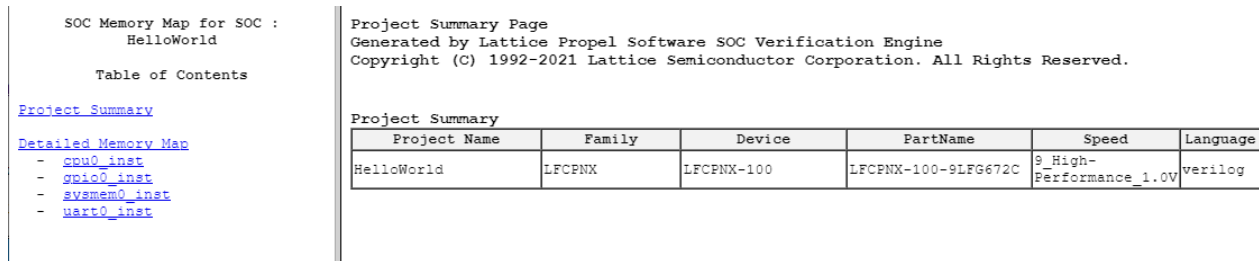

Figure 2.76. Memory Report
- From the toolbar of the Propel Builder main window, click the **Generate Memory Report** icon . The SoC design memory information is generated. The memory report folder (mem_report) is generated. All design memory information is shown in detail in the memory report files. The Memory Report files are in HTML format (Figure 2.76).